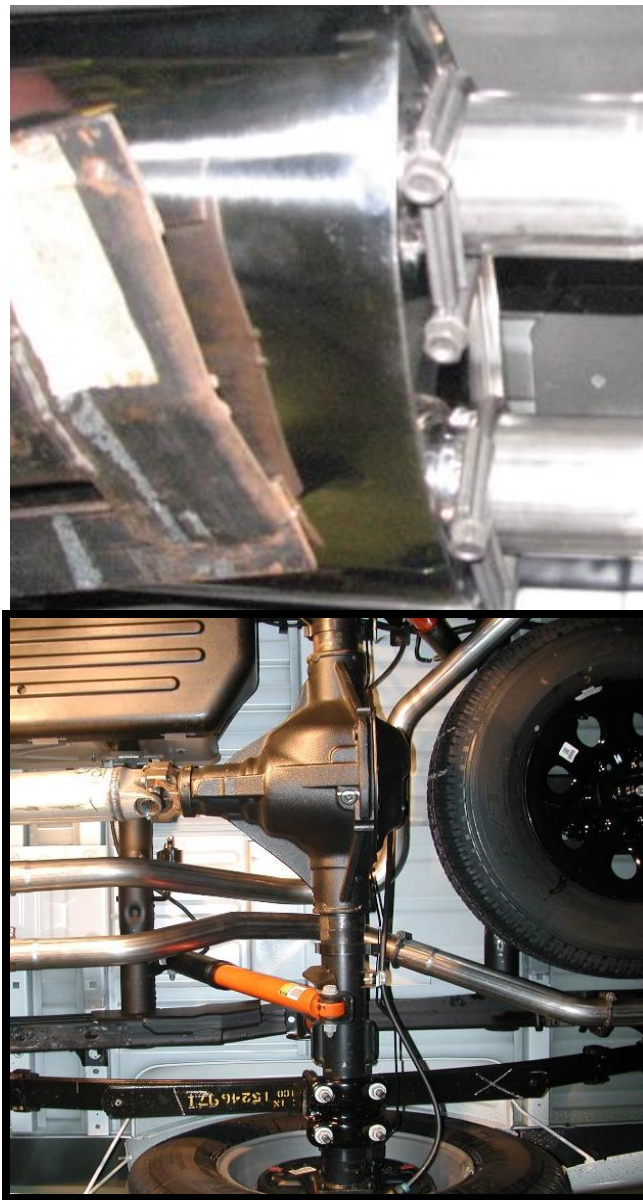

Figure 7: Over-axle Pipes Installed on Muffler
- 8 Next, slide a 2.5” guillotine clamp onto the driver’s side over-axle pipe inlet. Then carefully route the pipe over the axle and slide the pipe onto the outlet pipe of the muffler. Tighten the clamp to hold the pipe in place but not so tight as to not allow for adjustment. Do this step in the same manner for the passenger side pipe... **See figure 7.**